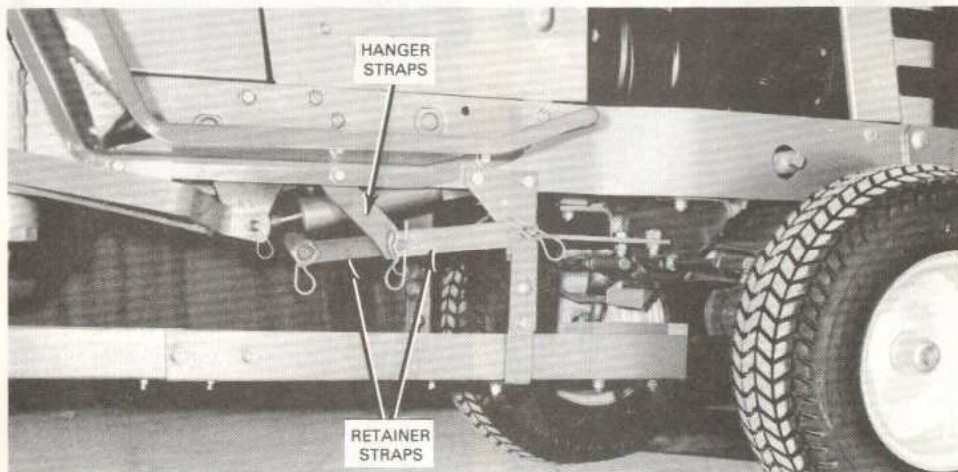

FIG. 12
5. Attach shield to front of Tractor, as shown in Figs. 12, 13 and 14. Tighten front hanger screws. Secure mower hanger straps, as shown, using retainer straps supplied with Tiller. Failure to secure mower hanger straps could result in belt damage.